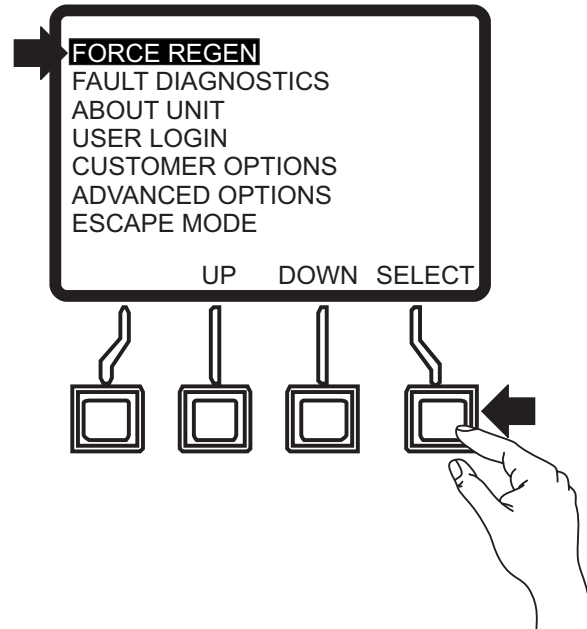

Figure 87. Force Regen Mode
2. Press the Program/Exit button on the ECU-845 Controller and select "FORCE REGEN" mode (Figure 87).